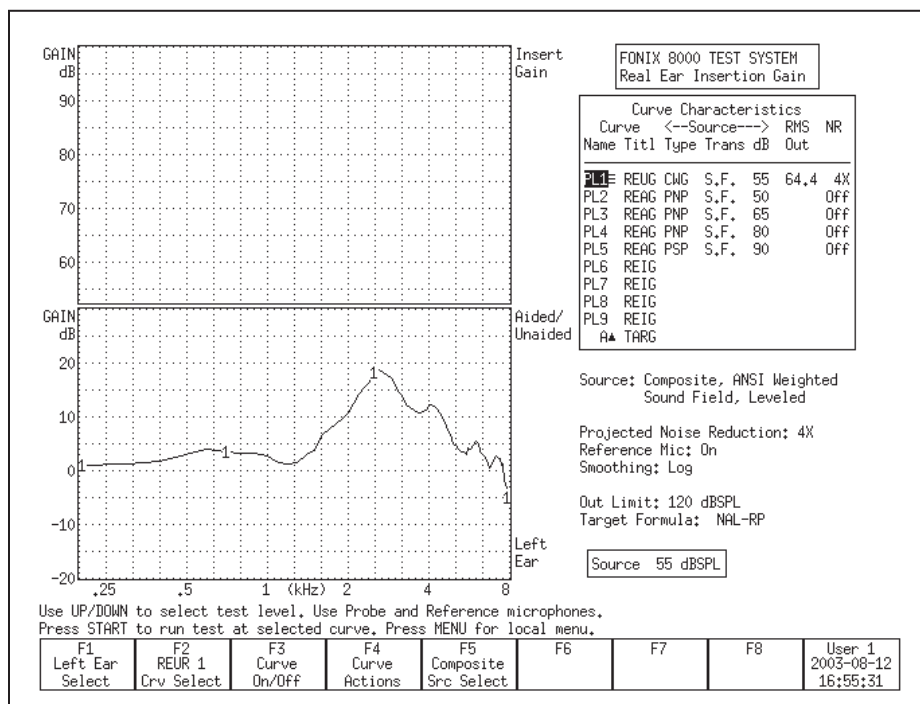

Figure 8.2.3B—Unaided response with correct insertion of the probe tube
5. Insert the probe tube carefully, looking at the composite measurement. At some point, there will be a large dip below the 0 dB level at 7 kHz caused by the standing wave inside the ear. Keep inserting the probe tube until that dip goes away and the unaided response is above 0 dB gain between 7 kHz and 8 kHz. See Figure 8.2.3B.